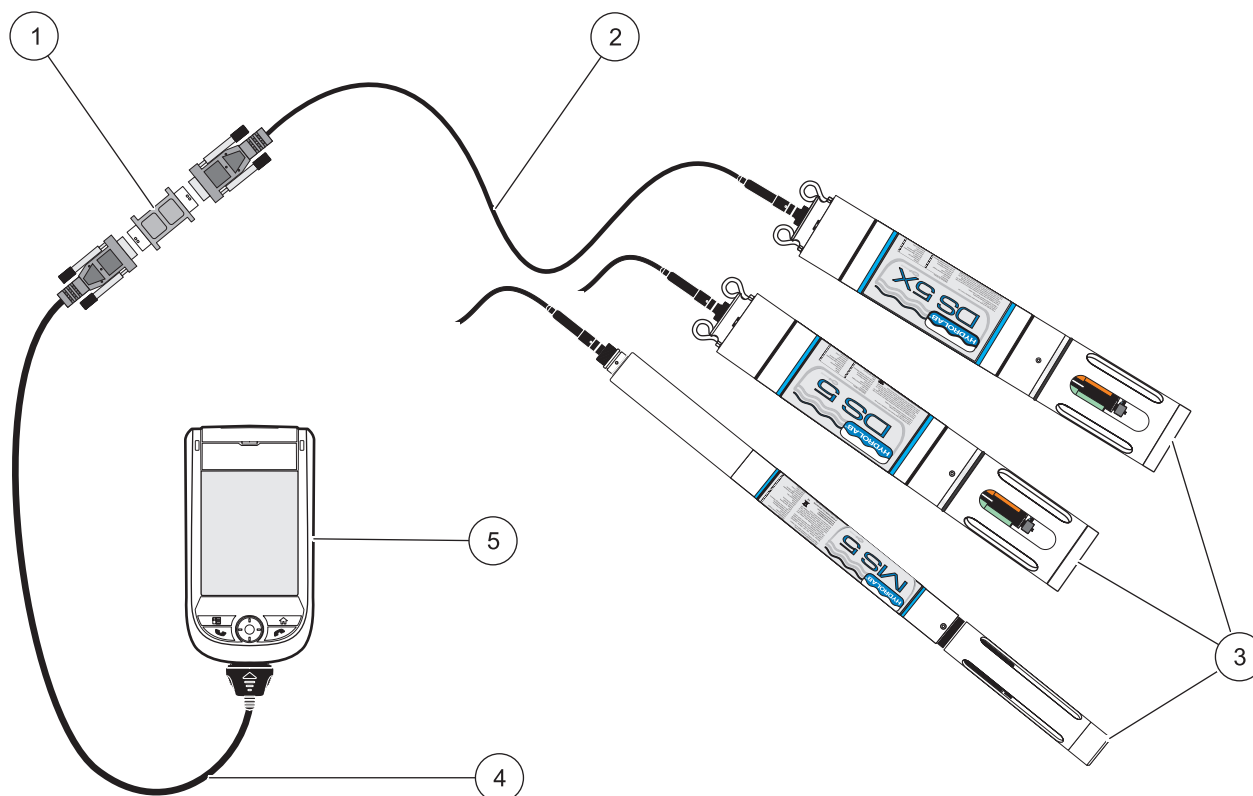

Figure 1 Typical configuration—PDA connection to sonde
Hydras 3 Pocket is compatible with Windows Mobile 2003 and Windows Mobile 5 software. Connection to a sonde requires a PDA to RS232 (DB-9) adapter cable with null-modem adapter (see Figure 1 on page 9).
Connect the PDA to the sonde as detailed in Figure 1. The PDA to RS232 adapter cable is available from most PDA suppliers.
1. Connect the PDA to the sonde using a PDA to RS232 cable and null-modem adapter as detailed in Figure 1.